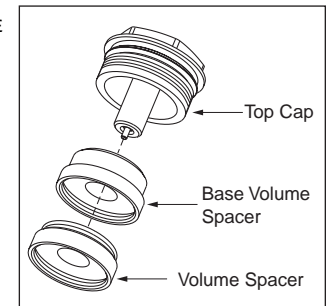

Fig. 6
4. To add volume spacers, snap a volume spacer into the bottom of the base spacer (Fig. 6)